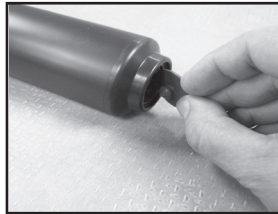

**Figure 2**
2. To remove pump cap from pump barrel, squeeze the tabs on the cap and pull away from barrel. (See Figure 2)